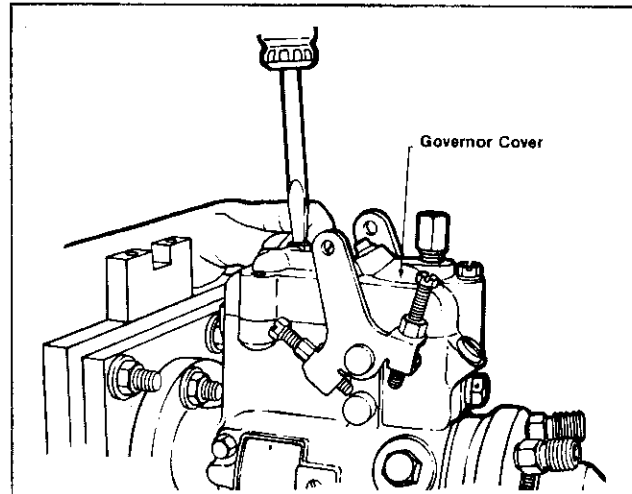

FIGURE 3.2a
STEP 2 Mount the pump in a holding fixture, 20029. Always use a fixture to avoid pump sliding out and becoming damaged, never clamp the pump in a vise. Remove all lead plumb sealing wires. Unscrew the three cover hold-down screws (Figure 3.2a).